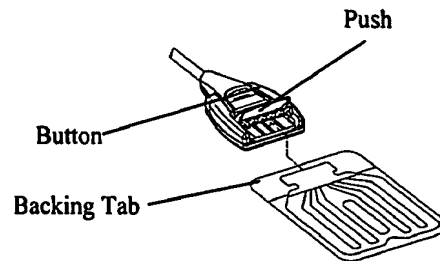

Figure 5.3 Connector's Latching Mechanism
3. Hold the connector between your index finger and thumb. The underside of the connector should be supported by your index finger. To open the connector, locate the top button and push back with your thumb (see Figure 5.3).
6. Insert the connection end of the patch into the connector as shown in Figure 5.3.